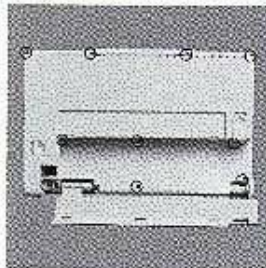

Figure 4-1
- d. Open the Outbound's base by removing the ten case screws from the rear of the Outbound. Four screws are located along the top edge of the rear panel. Six screws are located in the recessed portion behind the base. (Do not attempt to remove the tamper-proof hinge screws.) See Figure 4-1.